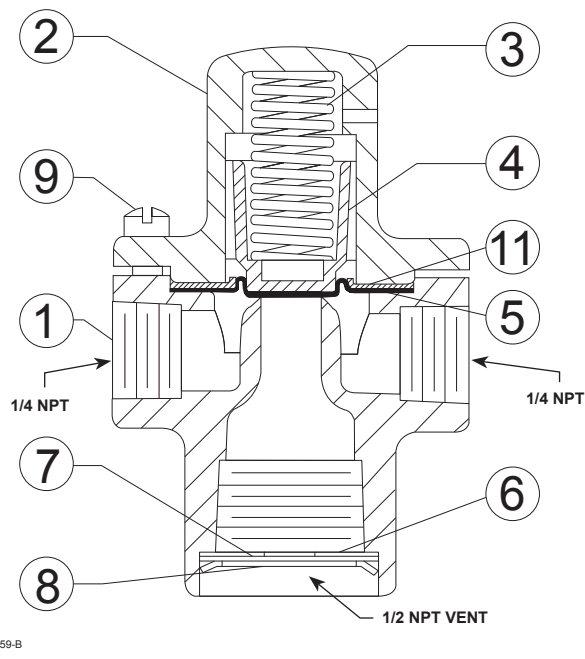

Figure 3. Type H800 Relief Valve Assembly
The following procedure describes the complete disassembly of the Type H800 relief valve. When parts replacement or inspection is required, complete only those steps necessary to accomplish the job. Key numbers refer to Figure 3.
This procedure describes complete assembly. If the relief valve has been only partially disassembled, start these instructions at the appropriate step. Key numbers refer to Figure 3.
1. Insert the diaphragm (key 5) so that the raised, circular ridge faces toward the spring cup (key 4) as shown in Figure 3.
2. Slide the spring (key 3) into the spring cup (key 4).
3. Place the diaphragm disk (key 11), spring cup, and spring on the diaphragm. Orient the diaphragm disk so that its raised, circular lip faces toward the spring cup as shown in Figure 3.
4. Position the spring case (key 2) on the body (key 1). Insert and tighten the machine screws (key 9).
5. Insert the disk restriction (key 6), screen (key 7), and retaining ring (key 8).